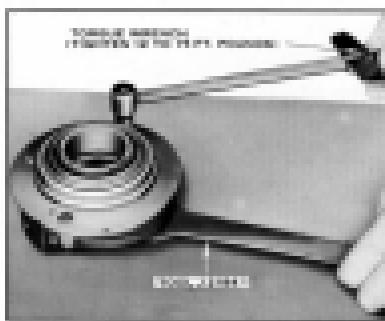

Fig. 476. Installing Pump Cover
11. Install two 1" long and one 3/8" long screws and copper washers. Hold pump with tool J-2184-1 and tighten screws 12-15 ft. lbs. (Fig. 476)